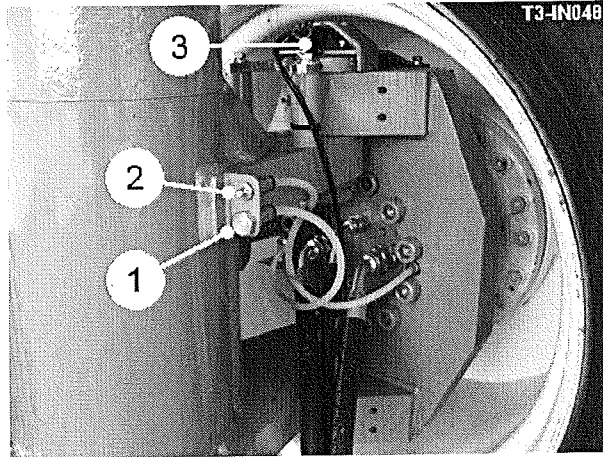

Fig 23
1. Remove the plug (item 1, fig 23)
2. Add grease through the grease nipple (item 2, fig 23) until grease is expelled through the plug hole.
3. Refit the plug (item 1, fig 23).